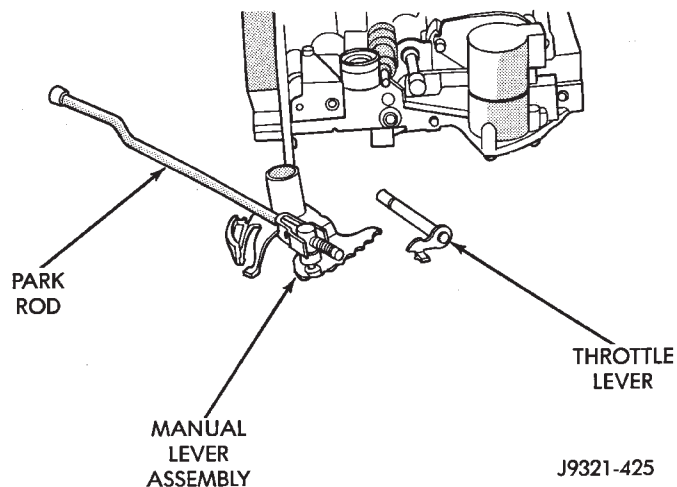

Fig. 47 Manual And Throttle Lever
(17) Remove manual lever and throttle lever (Fig. 47). Rotate and lift manual lever off valve body and throttle lever shaft. Then slide throttle lever out of valve body.